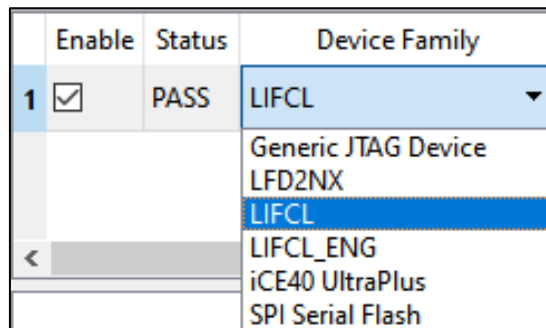

Figure 4.4. Lattice Radiant Programmer- Device Selection
3. In the Lattice Radiant Programmer main interface, select LIFCL for Device Family, as shown in Figure 4.4.